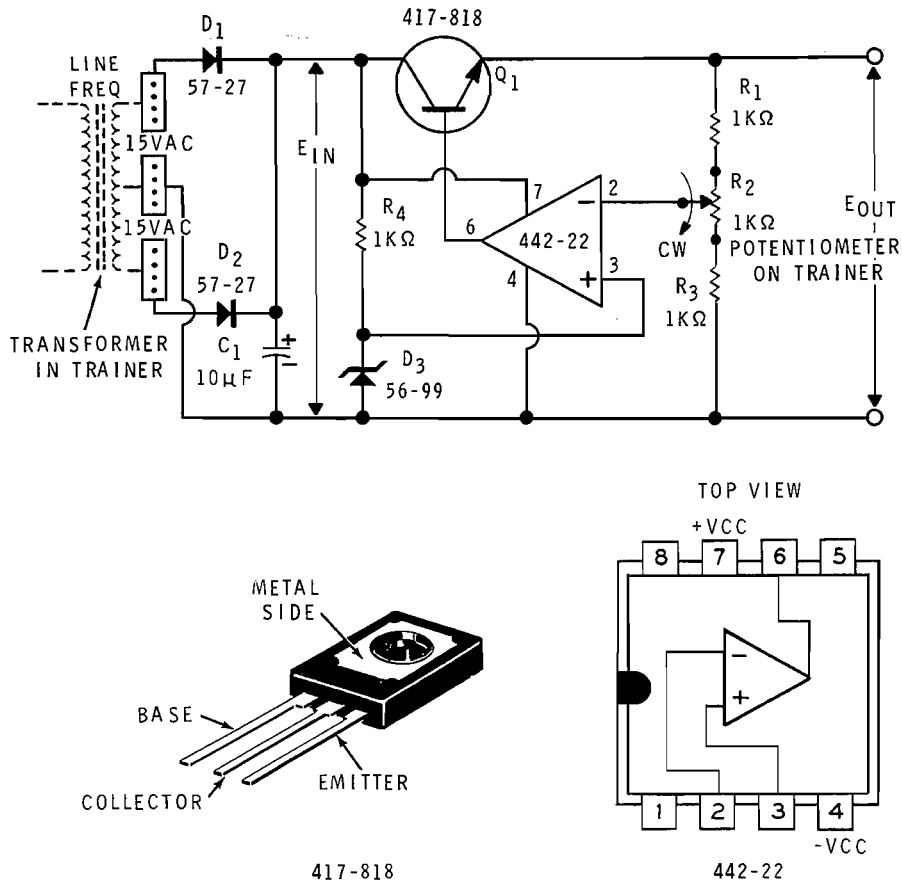

Figure 4-50
A schematic of the power supply is shown in Figure 4-50. A full-wave rectifier is used so that  $E_{in}$  is less than 25 volts. The regulator is almost identical to the one with which you just experimented.  $E_{out}$  is adjustable from about 4 volts to 8 volts. Notice that no load is presently across the output. The supply can deliver over 200 mA without any problem. However, you should not attempt to check this by placing a small value resistor across  $E_{out}$  unless the resistor has a high power rating. For example, if  $E_{out}$  is 8 volts, a 50 ohm resistor must be able to dissipate
39. With the Trainer turned off, construct the circuit shown in Figure 4-50.